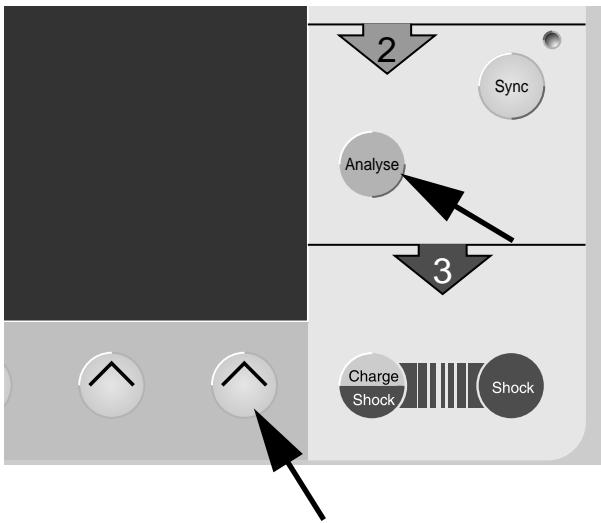

Figure 15-1. Buttons to activate the manual mode
- Simultaneously press **F5** and **Analyse** (Figure 15-1).